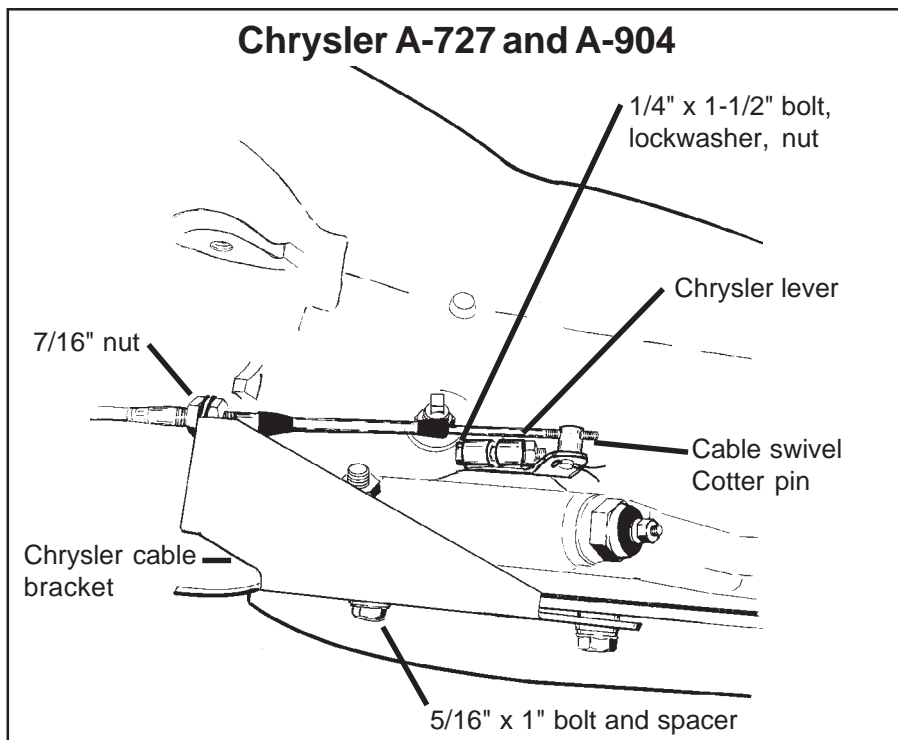

Figure 8
STEP 21. If you have not already done so, loosen the pinch bolt on the throttle lever on the transmission. This is the lever on the small diameter shaft. Pry the lever off with a screwdriver and allow the linkage to hang free. Remove and discard the stock shift lever and the stock shift linkage. Install the **Hurst** selector lever in position and tighten the pinch bolt securely (See **Figure 8**). Make sure the lever is not pushed down so far as to touching the transmission case. This will cause the lever to bind on the case. The lever should travel smoothly from front to back with a positive click in each gear position. Install the stock throttle lever in position on the small diameter shaft as removed and tighten the pinch bolt securely. The throttle lever must operate smoothly.
STEP 22. Remove the two transmission oil pan bolts directly below the shift lever. Install the cable bracket in position with the two spacers between the pan and the bracket (See **Figure 8**). (If your transmission is equipped with a cast aluminum oil pan these spacers can be omitted.) Install the two 5/16-18 x 1.00" pan bolts supplied and tighten to 12-13 lb.ft. Do not over-tighten as this can damage the pan gasket.